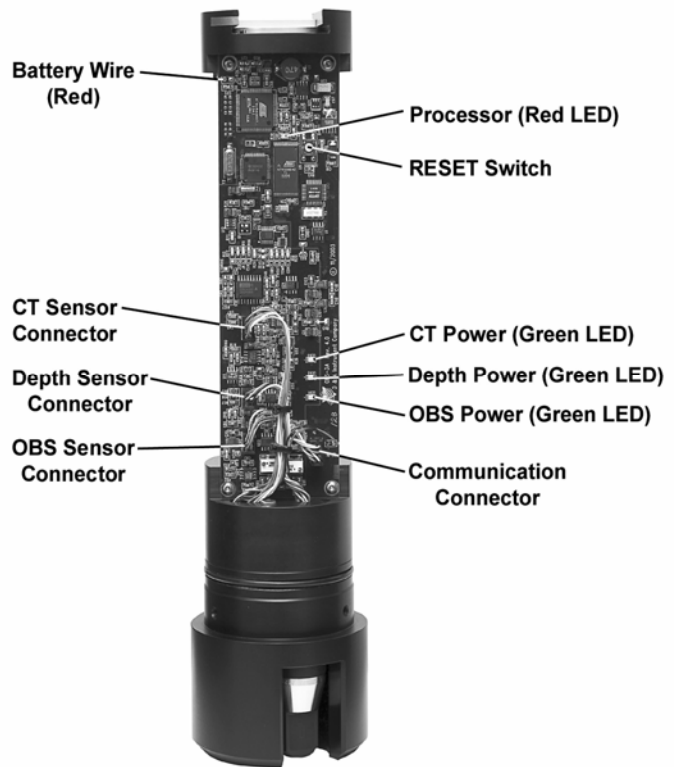

FIGURE 2-1. Component locations
- Open unit and inspect for broken sensor and communication wires and loose connectors (FIGURE 2-1).